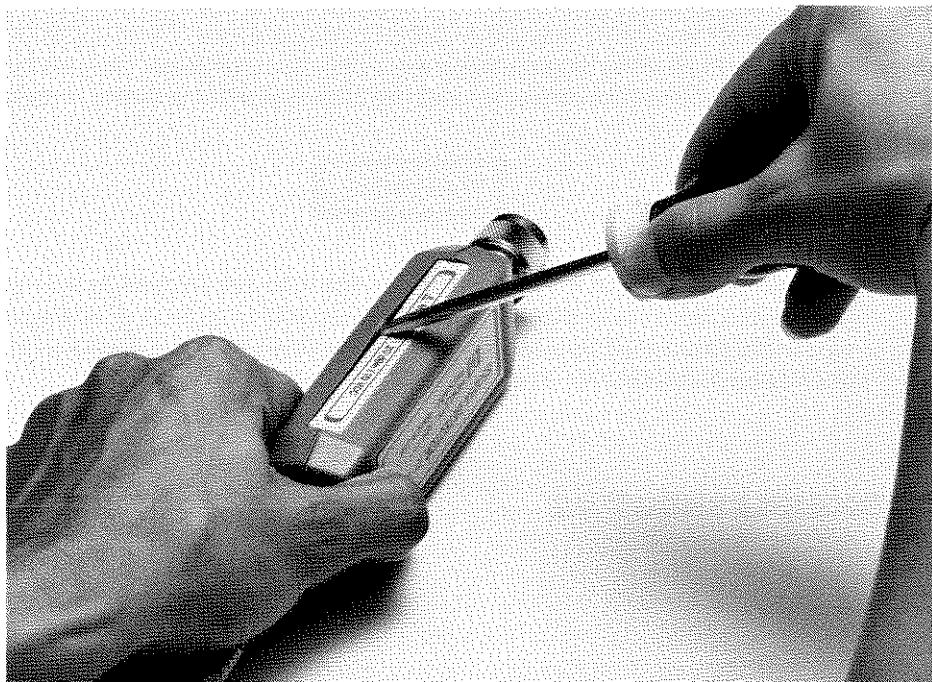

Figure 4-1. Cover Removal
1. Place the detector so that its narrow side is on a flat surface, with the waveguide connector facing away from you. Refer to Figure 4-1.